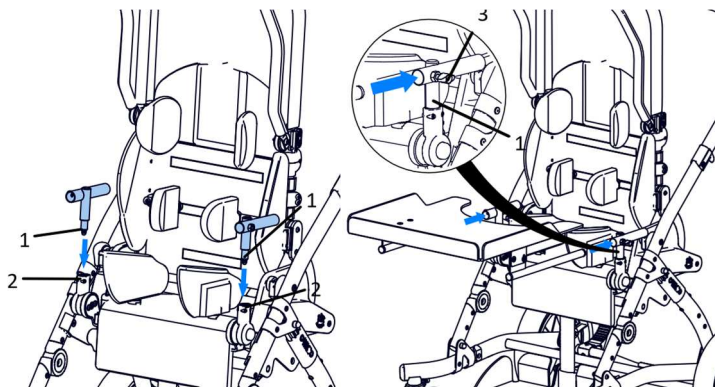

Fig. 33
To mount the tray Fig. 33, insert the tray mounting adapters (1) into the place where the railing (2) is attached, then insert the tray into the adapter tubes (1) to a depth that ensures patient comfort. To lock the tray before sliding it out, screw the tray with the knobs (3).